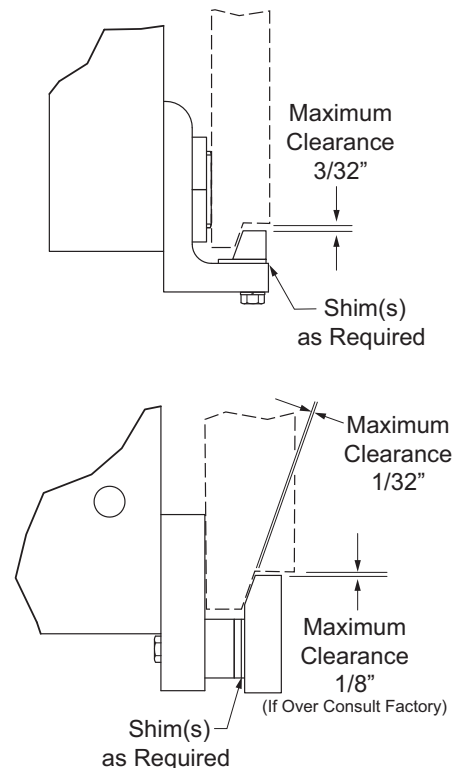

Figure 4-4, Lower Hook Clearance
9. Install the bolt-on lower hooks. Inspect clearance to the carriage on lower hooks. Adjust the lower hooks for a maximum clearance of **3/32"** (see Figure 4-4). On Class II and Class III units, tighten the 3/8" bolts to **33 ft-lbs**. On Class IV units tighten the 1/2" bolts to **77 ft-lbs**. On units using 9/16" UNC bolts, tighten the bolts to **112 ft-lbs**.